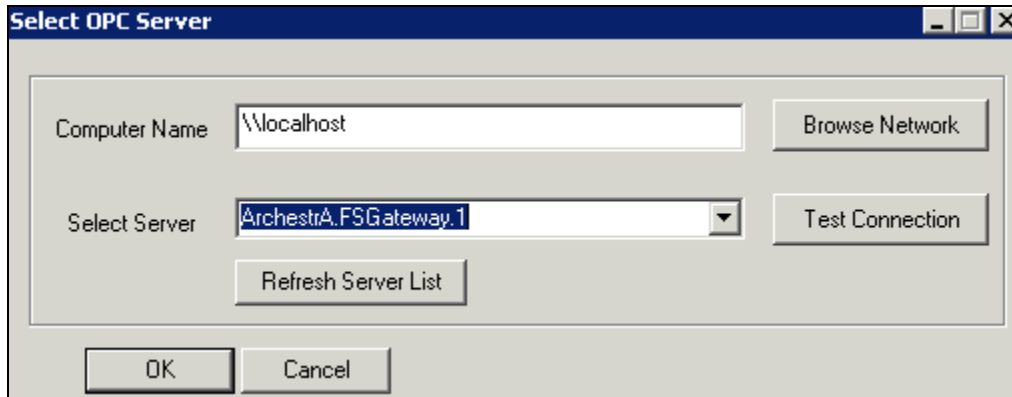

Figure 2:
4. Click the **Configure** button to the right of the Data Driver field. The **Select OPC Server** dialog box appears (Figure 2 below).